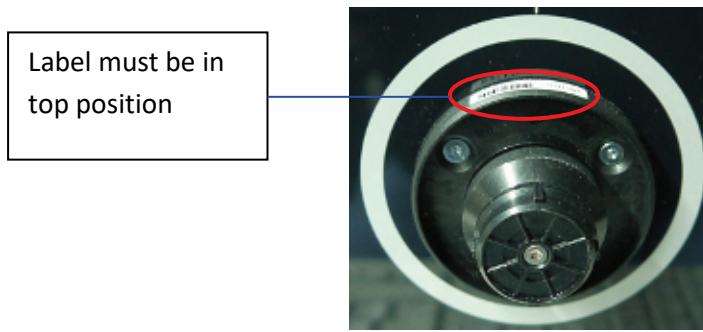

Fig. 42: Position of the label on the cap holder of the rotary/push button
- ☐ Attach the holder of the rotary/push button so that the white label on the side of the cap holder is in top position (see Fig. 42).
7. Reattach the button (cap) of the rotary/push button at the glass front. In neutral position, the „Engel“ writing on the button should be horizontal (see Fig. 42).